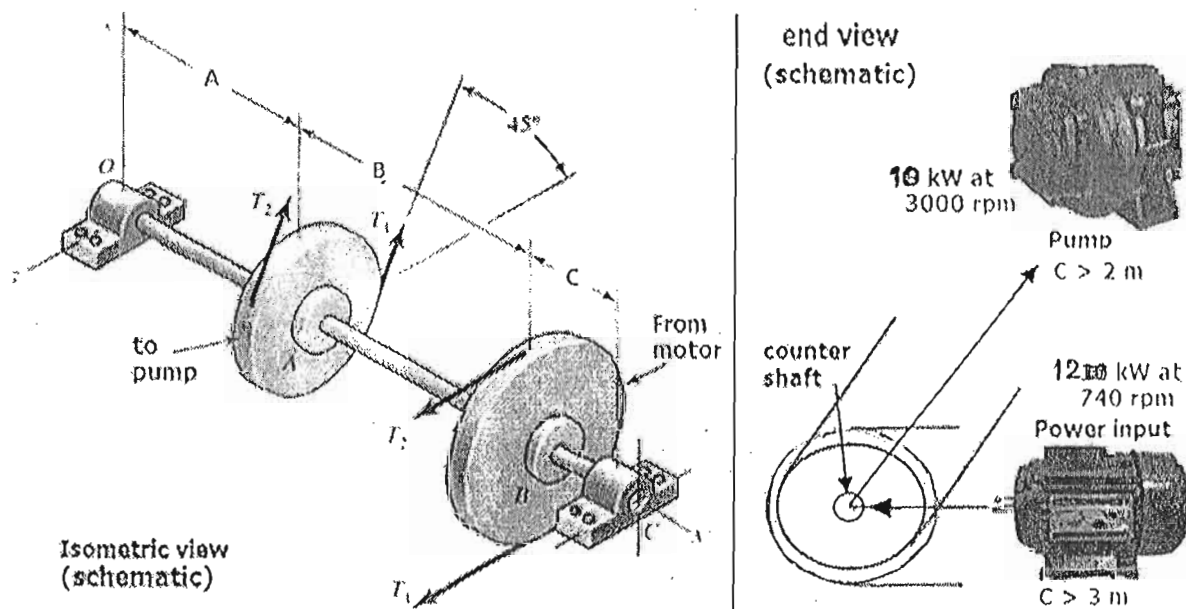

Fig. Q7 - A counter-shaft transmitting power from a motor to a pump
- 7) A counter-shaft supports two flat-belt pulleys, as shown in figure Q7. For the pair of pulleys, the minimum center distances (C) are restricted to 2 m and 3 m, as shown. The power requirement of the pump is 10 kW at 3000 rpm whereas the rating of the motor is 12 kW at 740 rpm. Design an identical belt-pulley drive system for the application, i.e., the small and large pulley diameters should be same for both pair. Also obtain belt tensions and pulley weights and determine missing dimensions 'A', 'B' and 'C' of the counter-shaft, considering only the static strength of the shaft.